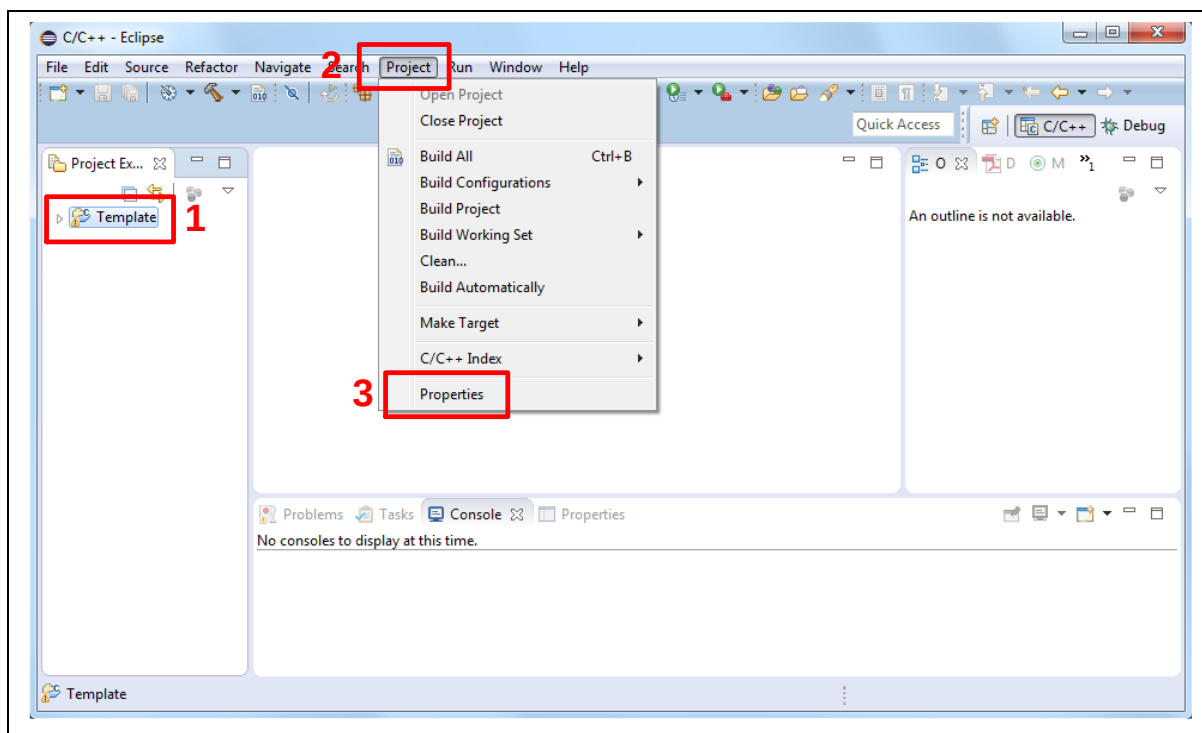
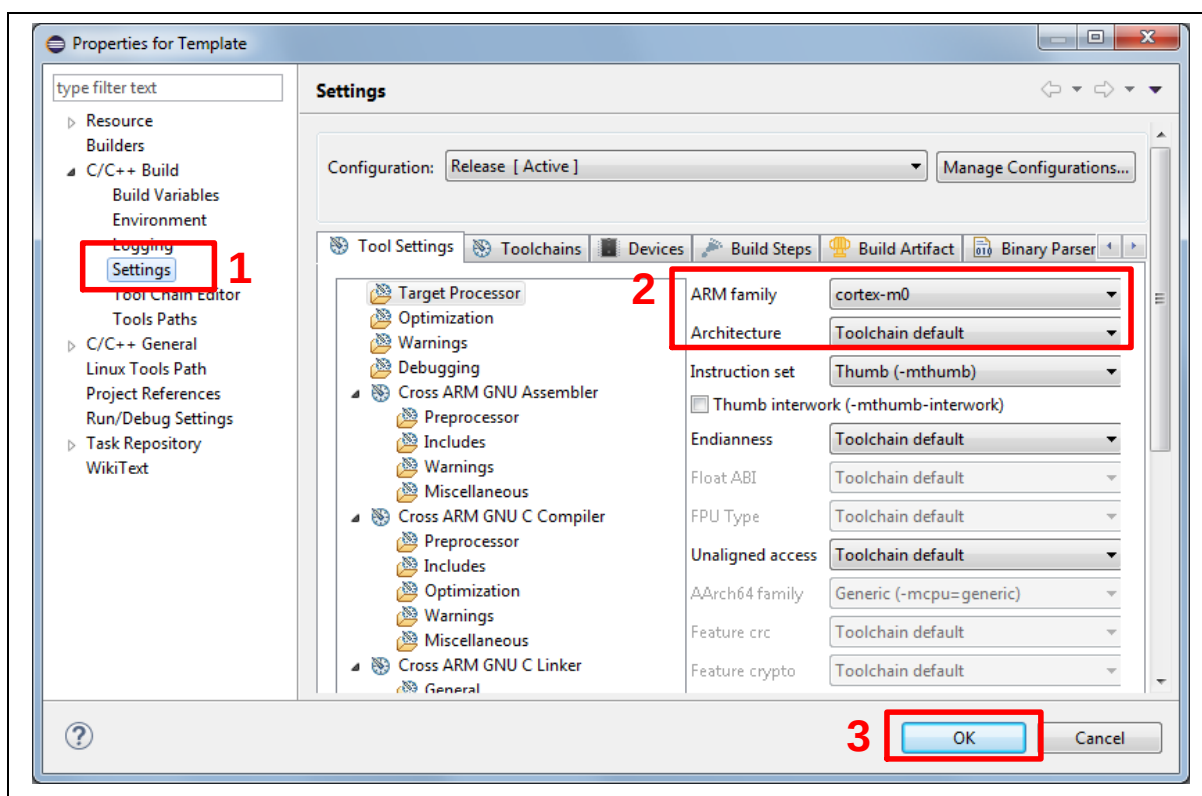

Figure 5-21 Open Project Properties Window
Figure 5-22 Project Properties Settings
- Click the “Template” project and find the project properties as shown in Figure 5-21. Make sure the settings are the same as settings in Figure 5-22.